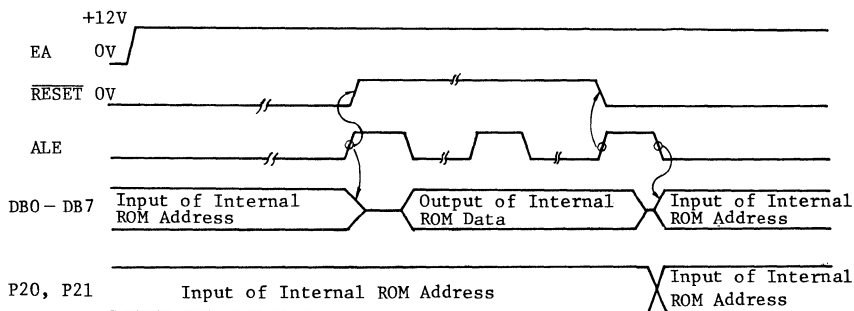

Fig.7 Timing of Reading Internal Program Memory
- Figure 7 illustrates the timing diagram for this operation.